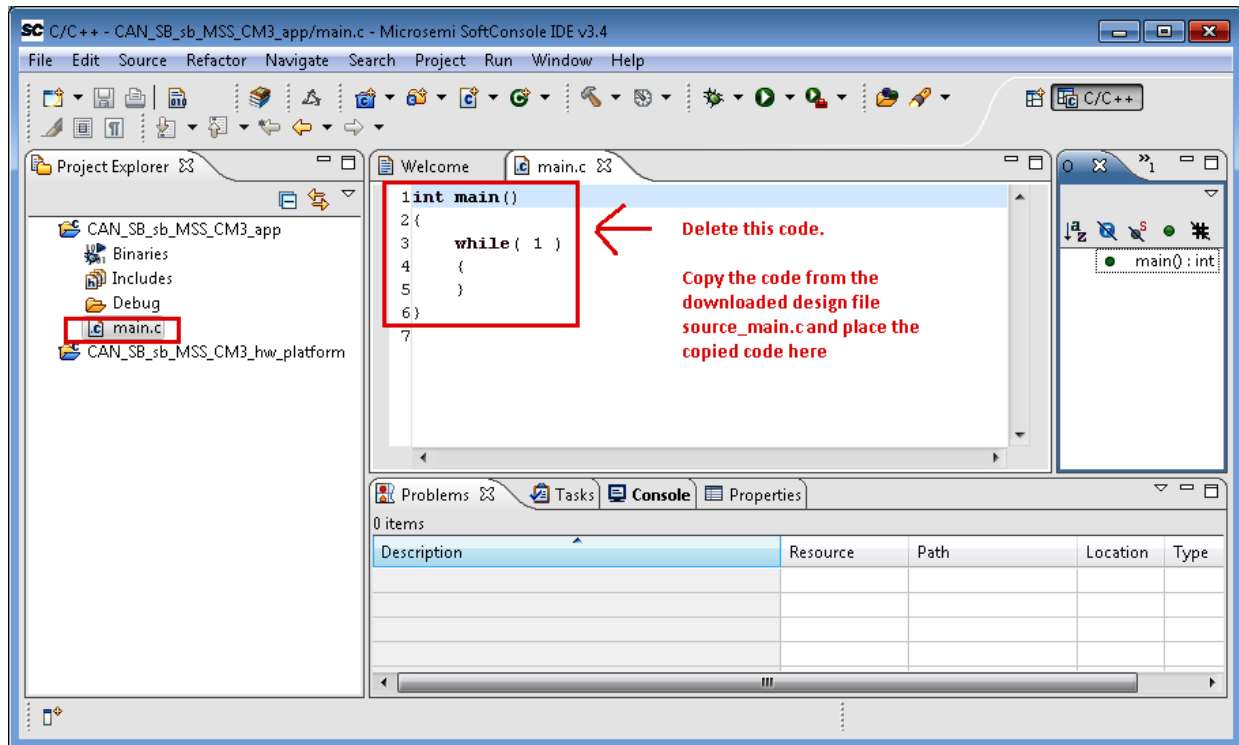

Figure 21 • Update the main.c with the Provided Code
12. Delete the existing code and paste the code from `source_main.c` in the `main.c` file as shown in Figure 21.